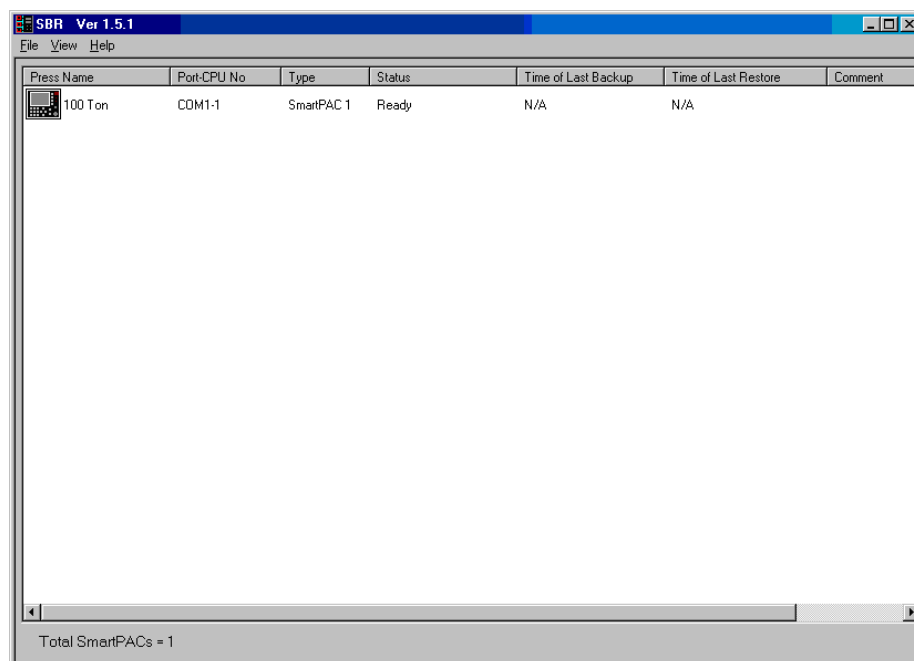

Figure 6. SBR Screen with SmartPAC Information Displayed
15. Click on *OK*. You are returned to the SBR screen (see Figure 6, next page). The information you specified for the SmartPAC you are backing up is displayed on the first line of the screen to the right of an icon representing the SmartPAC control.
If this SmartPAC is being backed up for the first time, the entry *N/A* appears in the **Time of Last Backup** and **Time of Last Restore** fields, and the **Comments** field is blank, as shown in Figure 6.